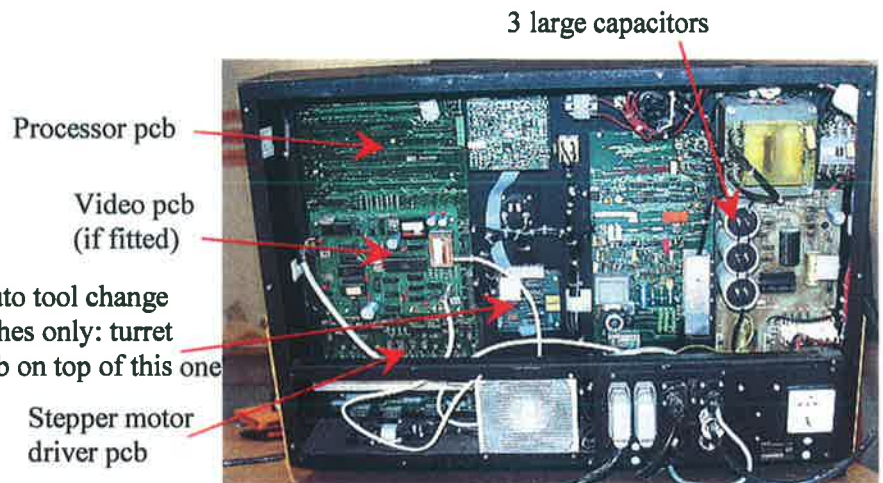

Fig 1 Inside the case
- 2) use a voltmeter to see if there is a voltage across the three large capacitors on the right, see Fig 1.
- 3) Identify the items labelled in Fig 1.